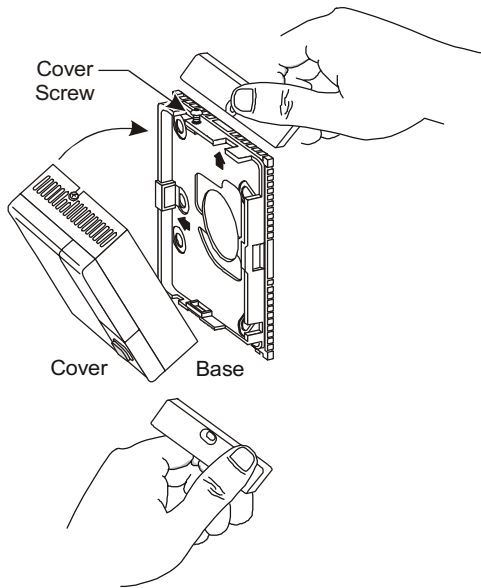

Figure 4: Removing the Breakaway Tabs
1. Bend the top and bottom edges of mounting base at the perforations until they break off. (See Figure 4.)